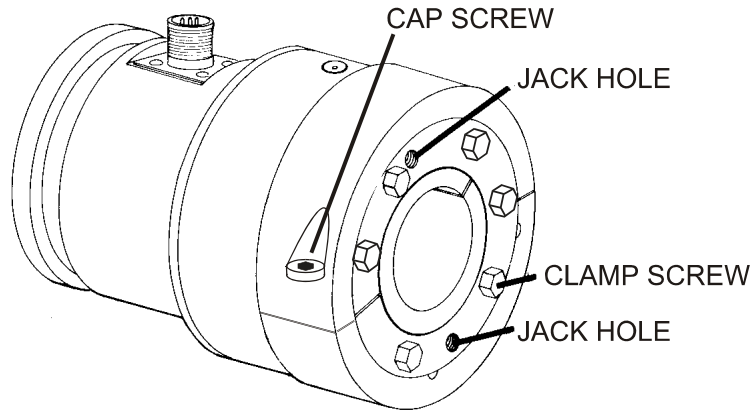

Figure 11 - LOCATION OF COUPLING JACK HOLES
1. Install the coupling cap securely tightened as in 2.4.3, B4-8. Loosely start the six bushing clamp screws. Tighten as in 2.4.3, B9 (they are pictured in Figure 11). Refer to Figure 9A. Remember, the left end transducer is tightly clamped to the shaft and the right clamp is loose.
2. Thread two of the screws into the jack holes in the bushing clamp (see Figure 11). Turn until finger-tight.